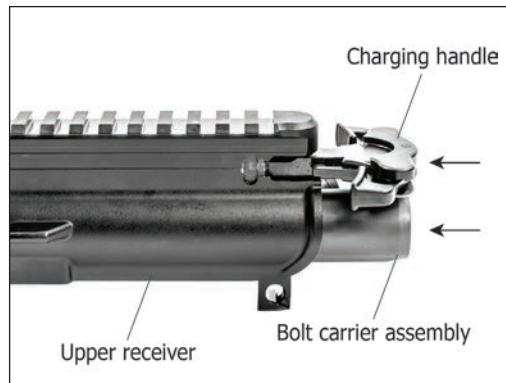

Fig. 39 – Completing installation of the bolt carrier assembly into the upper receiver
- h. Push the charging handle and bolt group completely into the upper receiver until the locking lugs on the bolt head engage the locking on the barrel extension and the latch on the charging handle engages the oval locking surfaces on either the left or right-hand sides of the upper receiver. The latch is on both the left and right-hand side of the charging handle (Fig. 39).